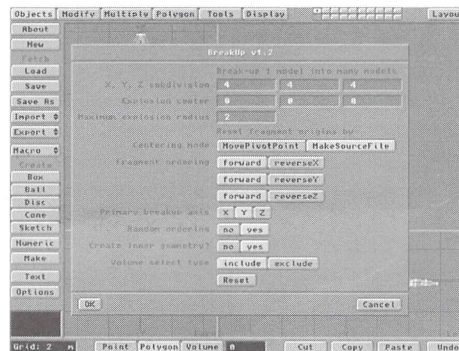

Figure 1: The BreakUp macro used to slice up your object.
- Go into Modeler and Load (Objects panel) in your spaceship. Run the Macro (Objects panel) Fragment.lwm (This macro comes with Sparks). For input values, see Figure 1. You might be wondering why I chose such a low number of subdivisions. You must remember that each axis of subdivision gets multiplied by the other two axes, for a total of 64 in our example. (We get 25 because that was the proximity where the spacefighter was when the macro did the Boolean operations.) Another thing about our settings—Fragment ordering doesn't mind if you have Random ordering selected (like we do).